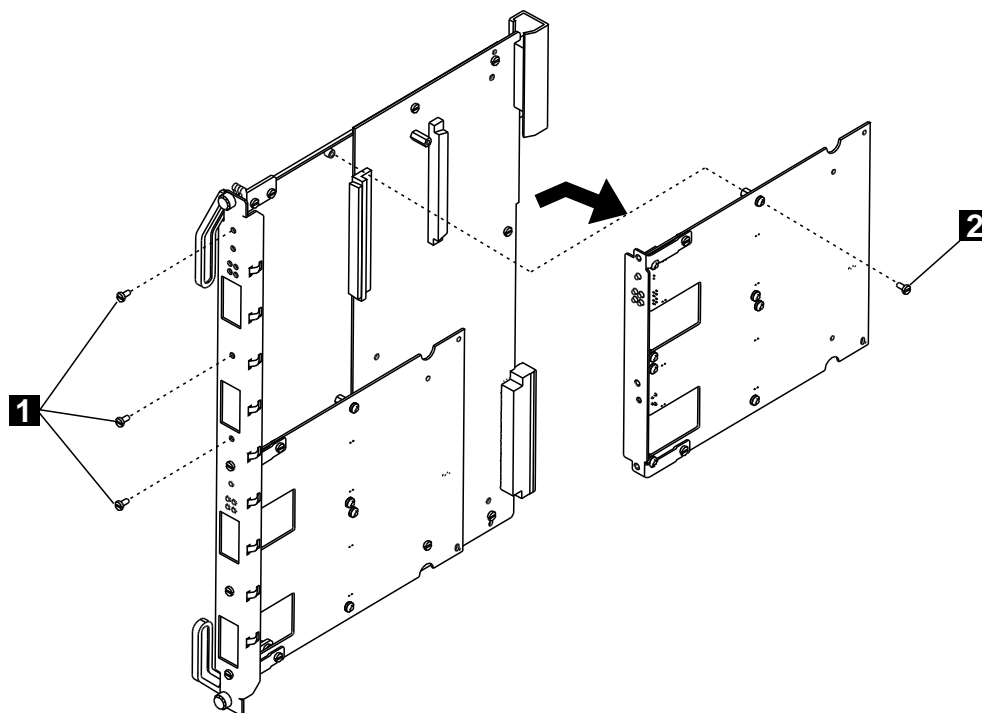

Figure 13. Removing the Motherboard
- 2 Detach the motherboard on which you want to install the I/O card by removing the four screws (1 and 2 in Figure 13) that hold the motherboard to the module. Retain the screws for reattaching the motherboard.